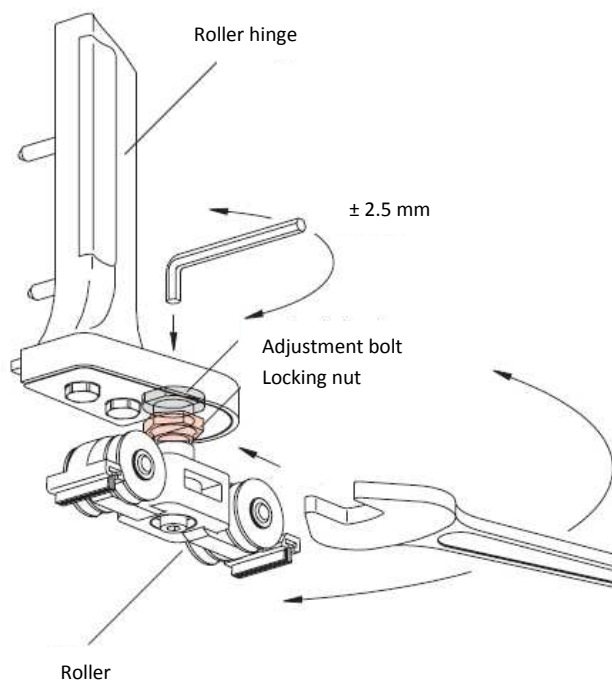

Figure 25. Adjusting ROTO Patio 6080 with an open-end spanner
16. The distance between the sashes shall be equal, from inside 4 mm and from outside 5 mm. Check with the help of wedges with a suitable size. If necessary adjust the position of sashes. For adjusting from the side of hinges use 4 mm Allen key (see Figure Adjusting 24 ROTO Patio 6080 with an Allen key) and for adjusting from the side of a bottom roller use 17 mm open-end spanner and 4 mm Allen key. See Figure 25 Adjusting ROTO Patio 6080 with an open-end spanner.